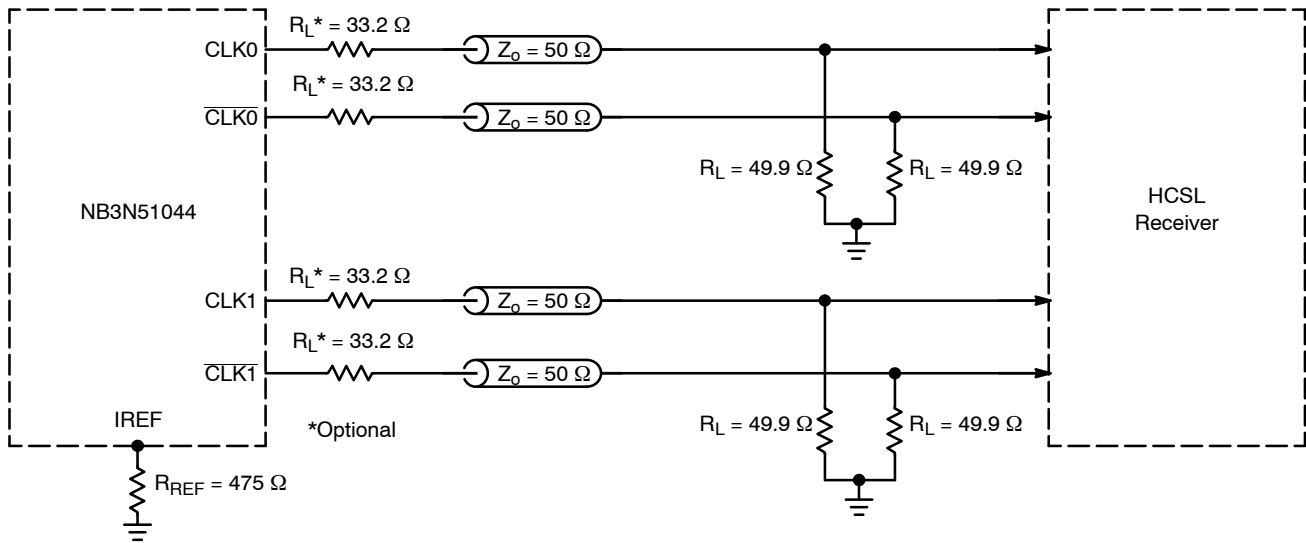
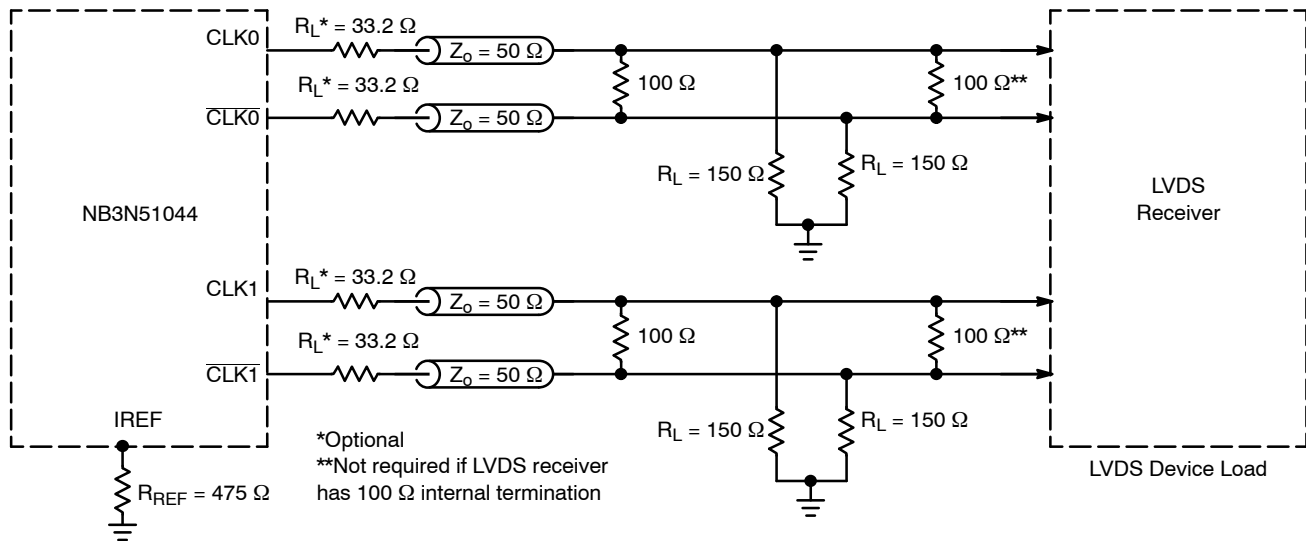

Figure 9. Typical Termination for HCSL Output Driver and Device Evaluation
Figure 10. Typical Termination for LVDS Device Load
4. Measurement taken with outputs terminated with $R_S = 33.2 \Omega$, $R_L = 49.9 \Omega$, with test load capacitance of 2 pF and current biasing resistor set at $R_{REF} = 475 \Omega$. See Figure 9. Guaranteed by characterization.
12. Measurement taken from differential output on single-ended channel terminated with $R_S = 33.2 \Omega$, $R_L = 49.9 \Omega$, with test load capacitance of 2 pF and current biasing resistor set at $R_{REF} = 475 \Omega$. See Figure 9. Guaranteed by characterization.
18. Measurement taken from differential output on single-ended channel terminated with $R_S = 33.2 \Omega$, $R_L = 49.9 \Omega$, with test load capacitance of 2 pF and current biasing resistor set at $R_{REF} = 475 \Omega$. See Figure 9. This parameter is guaranteed by characterization. Not tested in production.
The outputs can be terminated to drive HCSL receiver (see Figure 9) or LVDS receiver (see Figure 10). HCSL output interface requires 49.9 Ω termination resistors to GND for generating the output levels. LVDS output